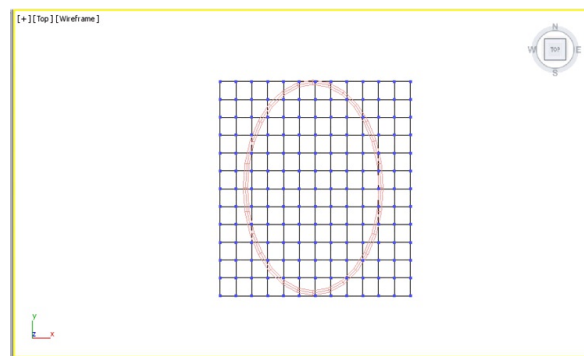

Figure 12-73 The vertices of the stringed area displayed in the Top viewport
9. In the **Selection** rollout, choose the **Vertex** button; all the vertices of *stringed area* are displayed in the viewport, as shown in Figure 12-73.